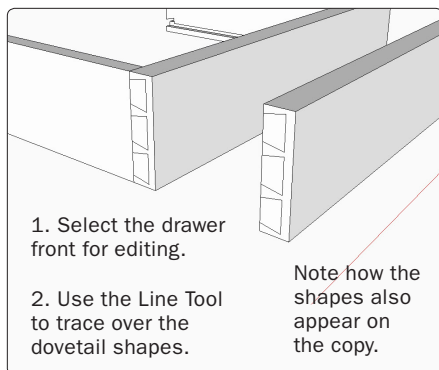

Figure 62. Create the half-blind dovetail shapes in the drawer front.
Step 50 Right-click on the drawer front and choose Edit Component from the pop-up menu. Use the Line Tool to trace over the dovetail shapes. The lines will also appear on the copy, as Figure 62 shows.